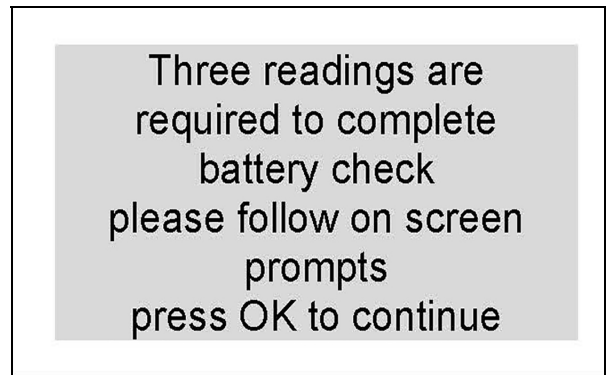

Figure 6
6. When Figure 6 is displayed, read the on-screen message and then press OK.